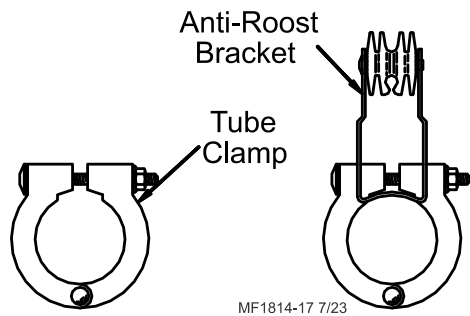

Figure 20. Tube Clamp & Anti-Roost Bracket
3. Place a Tube Clamp Assembly **or** Clamp/Anti-Roost Bracket at each joint. **Figure 20** shows the standard Clamp and Clamp/Anti-Roost Bracket.